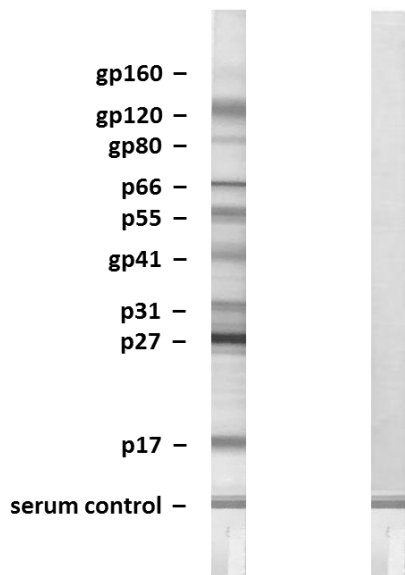

Fig. 1a Fig. 1b
2. **REACTIVE CONTROL:** All major molecular weight bands must be visible on the nitrocellulose strip used to test the REACTIVE CONTROL. These bands are p17, p27, p31, gp41, p55, p66 and gp120. Other virus specific bands may also be present such as gp80 and gp160. The serum control band should be visible. **Figure 1a** provides a guide to the relative positioning of bands observed with the REACTIVE CONTROL.